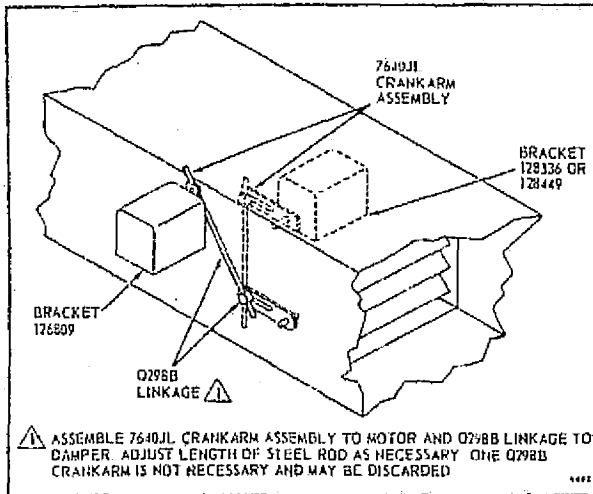

FIG. 6—OFFSET MOUNTING WITH 7640JL CRANK ARM ASSEMBLY AND Q298B LINKAGE.
7. Q298B Linkage - damper crank arms, bushings, 1/4 inch [6.5 mm] steel rod, and ball joint assemblies (Fig. 6).